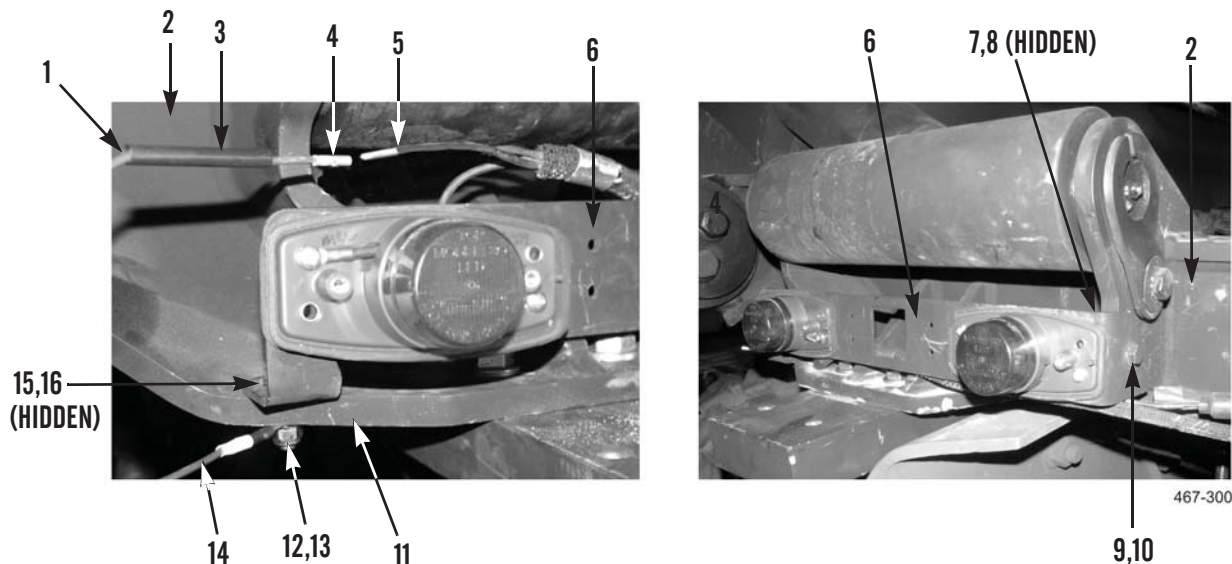
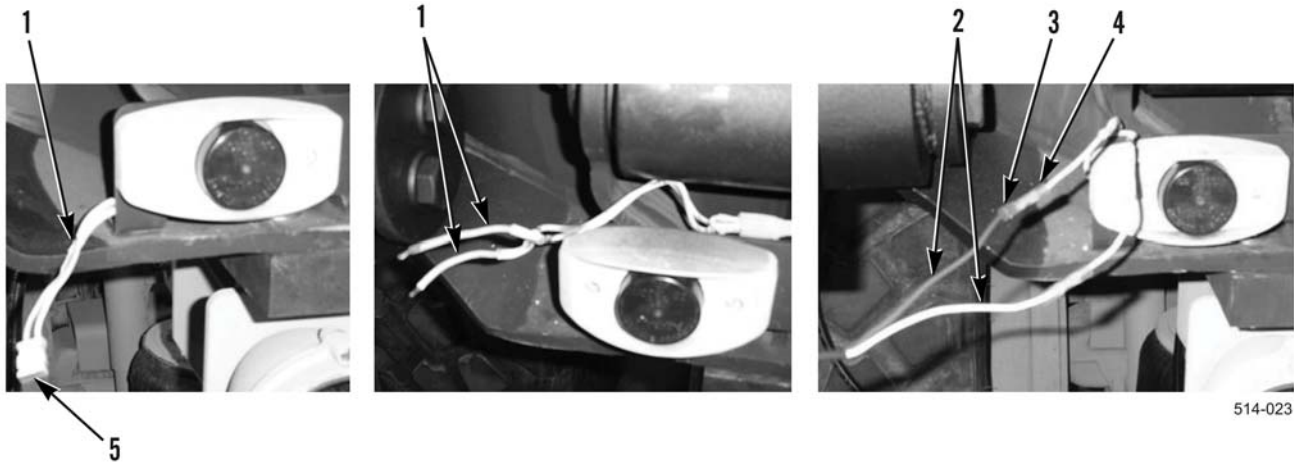

Figure 64. Light Bracket Installation.
Figure 65. Light Wires and Light Extension Wires.
22. Install light bracket (Figure 64, Item 6), washer (Figure 64, Item 9), bolt (Figure 64, Item 10), washer (Figure 64, Item 7), and nut (Figure 64, Item 8) on slider beam (Figure 64, Item 2).
23. Scrape or grind away paint surrounding mounting hole on underside of slider base (Figure 64, Item 11).
24. Install bolt (Figure 64, Item 16), washer (Figure 64, Item 15), ground wire (Figure 64, Item 14), washer (Figure 64, Item 12), and locknut (Figure 64, Item 13) on slider base (Figure 64, Item 11).
25. Insert wire (Figure 64, Item 5) from vehicle wiring harness into solderless connector (Figure 64, Item 4) and crimp securely.
26. Slide shrink wrap tube (Figure 64, Item 3) from extension wire (Figure 64, Item 1) over solderless connector (Figure 64, Item 4) and apply heat until shrink wrap tightly encloses connector.
27. Install light bracket (Figure 64, Item 6), washer (Figure 64, Item 9), bolt (Figure 64, Item 10), washer (Figure 64, Item 7), and nut (Figure 64, Item 8) on slider beam (Figure 64, Item 2).
28. Install bolt (Figure 64, Item 16), washer (Figure 64, Item 15), washer (Figure 64, Item 12), and locknut (Figure 64, Item 13) on slider base (Figure 65, Item 11).
29. Cut connector (Figure 65, Item 5) and strip 1/4 in. insulation from two light wires (Figure 65, Item 1).
30. Insert two light wires (Figure 65, Item 1) into solderless connectors (Figure 65, Item 4) at end of light extension wires (Figure 65, Item 2), and crimp securely.
31. Apply heat to two shrink wrap tubes (Figure 65, Item 3) until shrink wrap tightly encloses connectors.